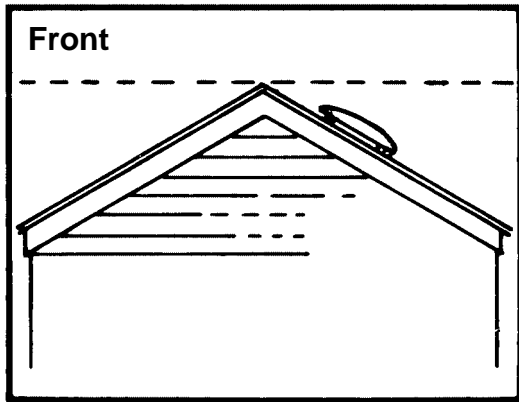

FIG. 1
1. The unit should be installed as close to the center of the roof ridgeline as possible on the rear slope of the roof, with uppermost portion of ventilator dome just below ridge level. See Fig. 1.